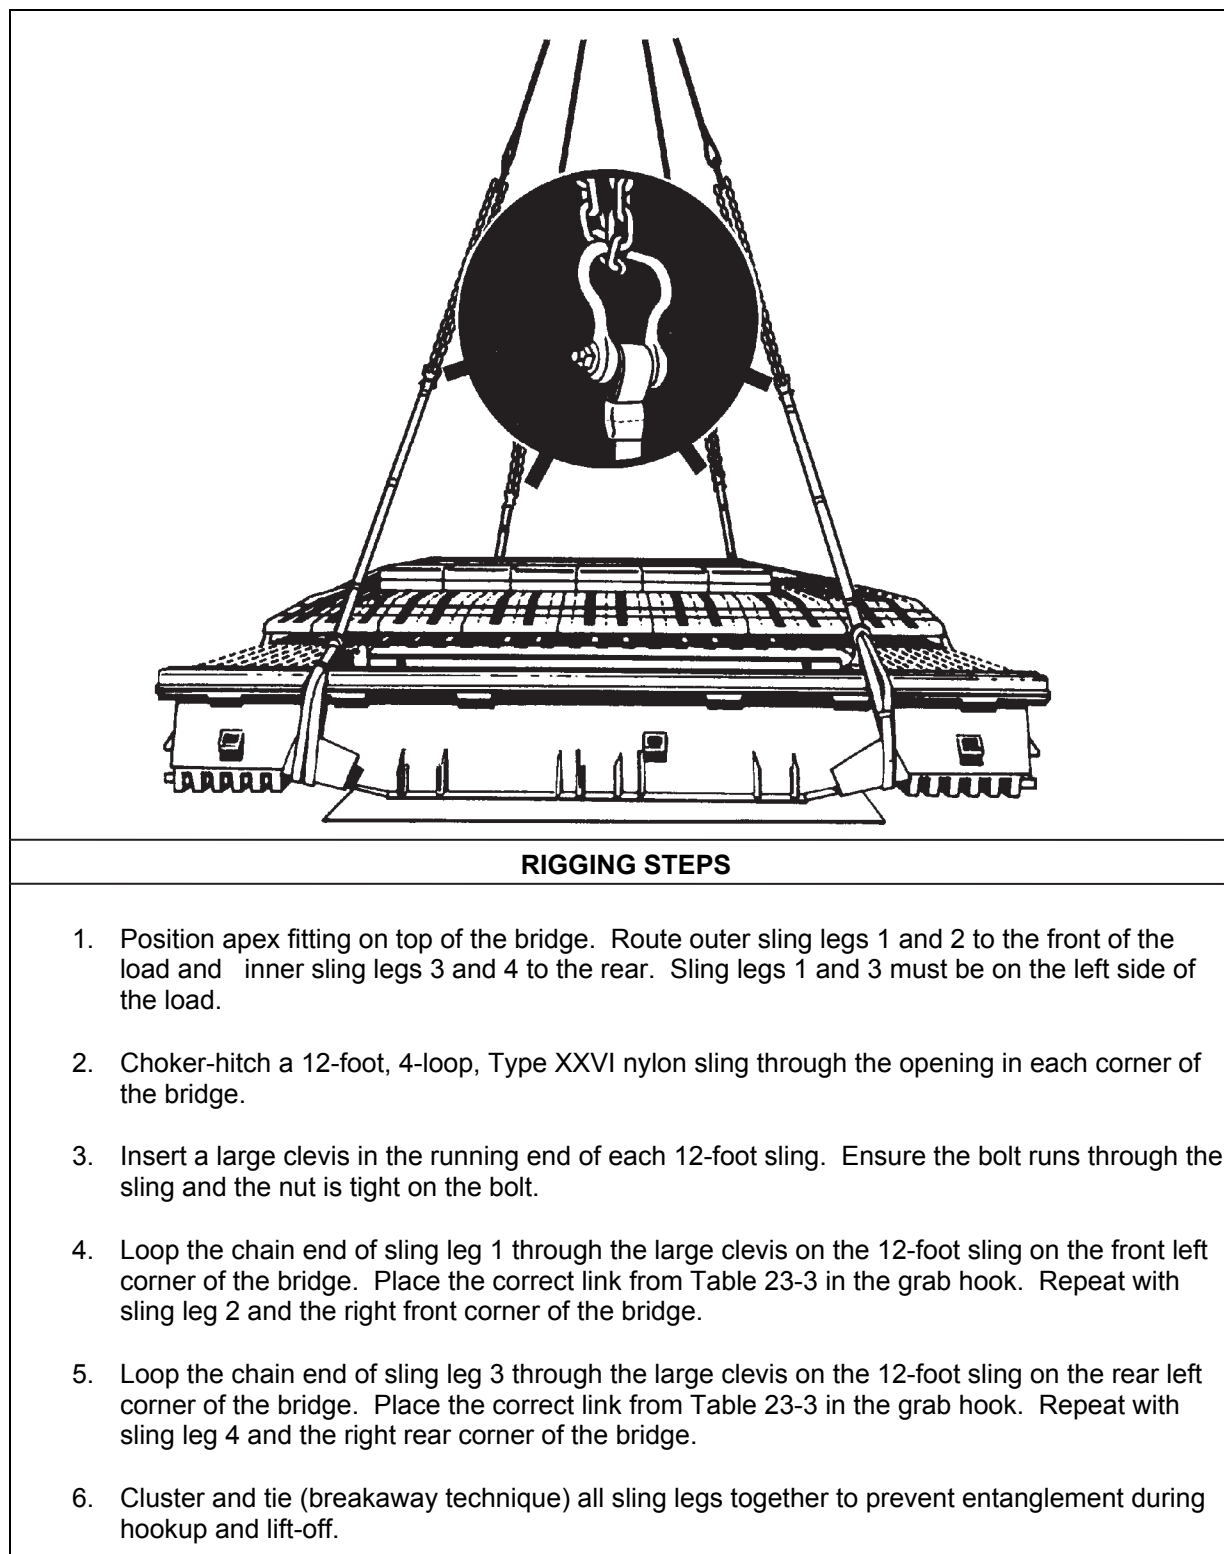

Figure 23-3. Medium-Span Bridge
- **Rigging.** Rig the load according to the steps in Figure 23-3.